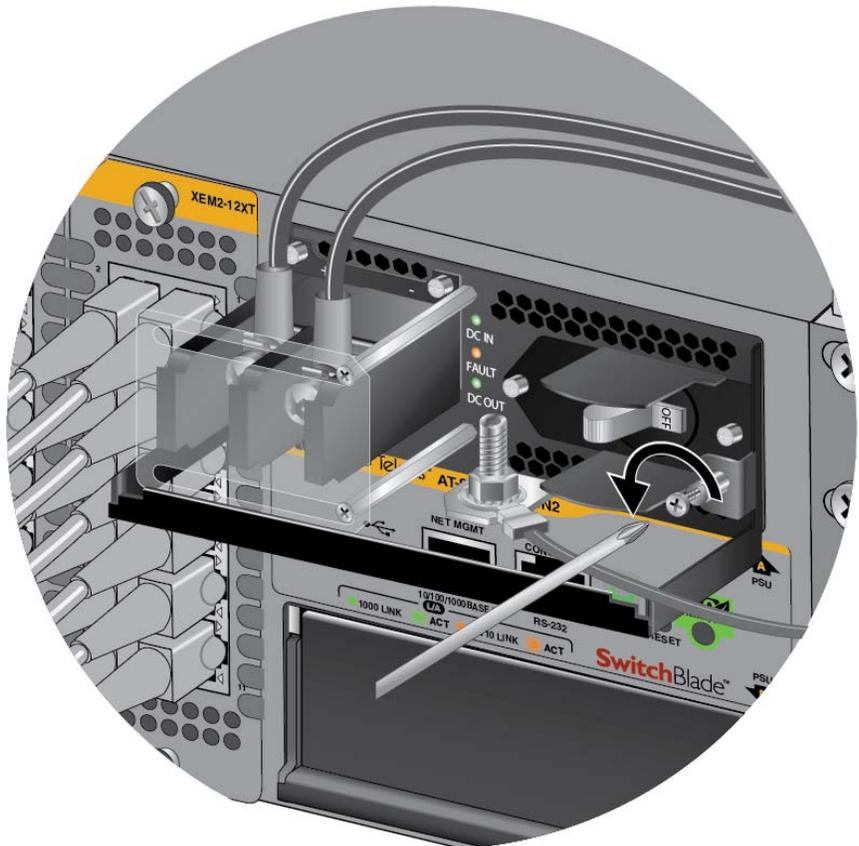

Figure 112. Loosening the Screw on the Locking Handle
3. Use a #2 screwdriver to loosen the screw on the locking handle. Refer to Figure 112.